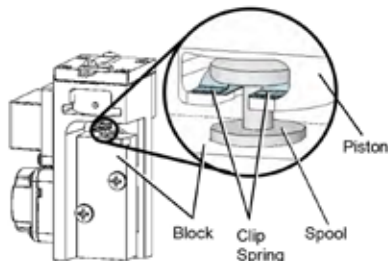

Figure 34: Clip Spring Orientation
2. Fully loosen the 2 spool block screws. By squeezing the two screws toward each other, grip the spool block and slide the spool from the piston. Take care to slide the spool straight out of the spool seat to avoid bending the spool or damaging the clip spring. The small clip spring should remain attached to the spool. See Figure 34: Clip Spring Orientation